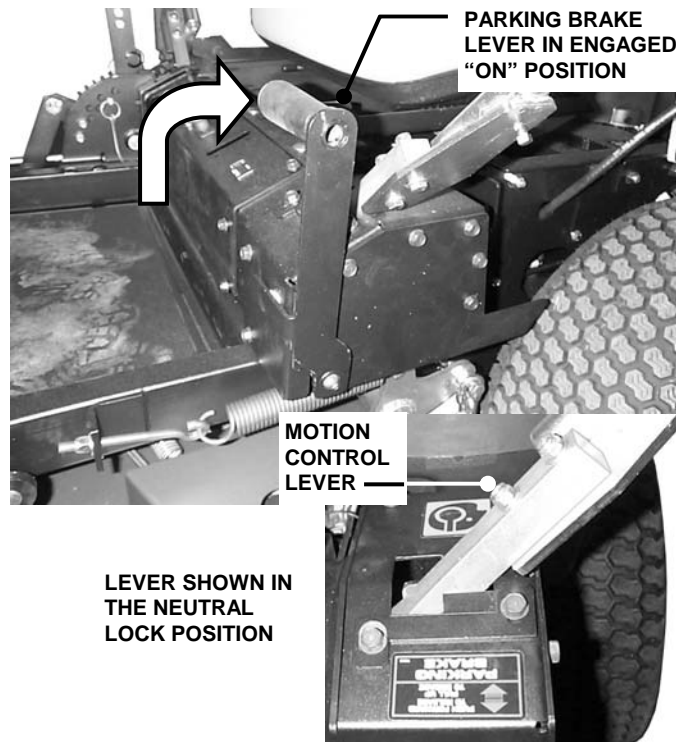

FIGURE 3.7
1. Engage parking brake by pulling the parking brake lever back to the engaged position. See Figure 3.7.
NOTE: Engaging parking brake prior to placing motion control levers in the neutral lock position will cause engine to die. See Figure 3.7.